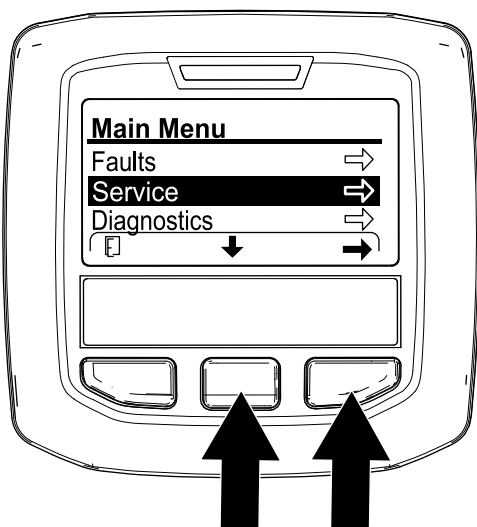

Figure 103
3. In the InfoCenter, navigate to the MAIN MENU (Figure 103).